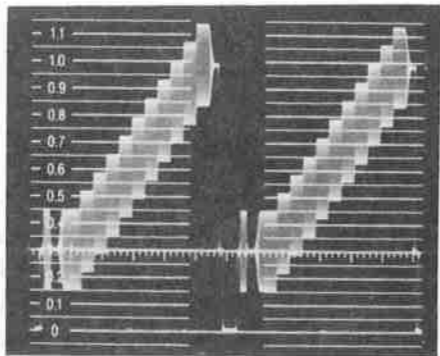

Fig. 6-2 RESPONSE control set to FLAT.
- 0.3 graticule. A modulated staircase signal will be displayed as shown in Fig. 6-2. In this setting, the tolerance of a frequency response is within  $\pm 5\%$  from 25Hz to 5MHz.